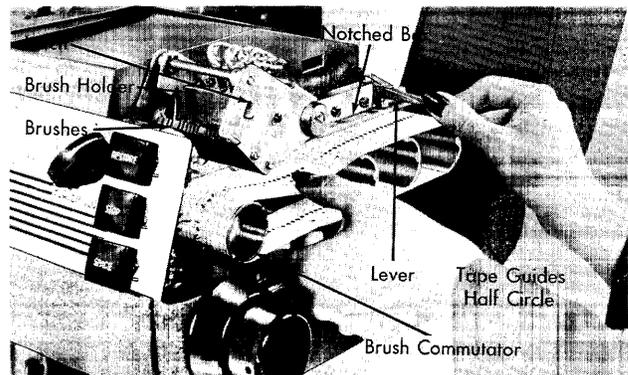

Figure 82. Inserting Tape in Carriage
6. Remove the excess slack from the tape by lifting the lever away from the notched bar, and by moving the guide piece unit to the right. The tape should be just tight enough so that it gives slightly when the top and bottom portions of the loop are pressed together as shown in Figure 82. It should not fit too tightly, or damage occurs to the pin-feed holes.